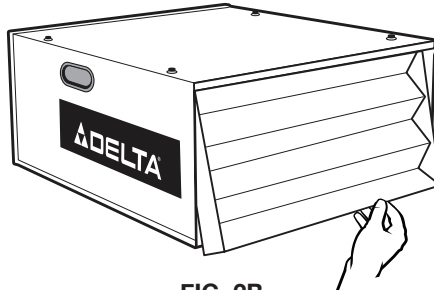

FIG. 2B
3. Remove inner filter by lifting up on the bottom and pulling out (Fig. 2B).